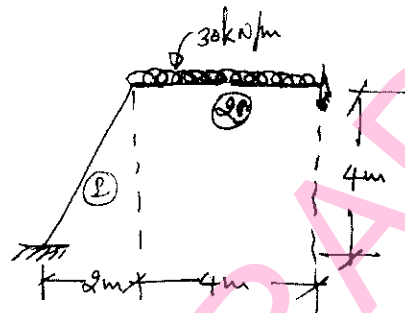

Fig.Q6
- 6 Analyse the frame shown in fig. Q6 by Flexibility method and draw B.M.D. Use system approach. (20 Marks)